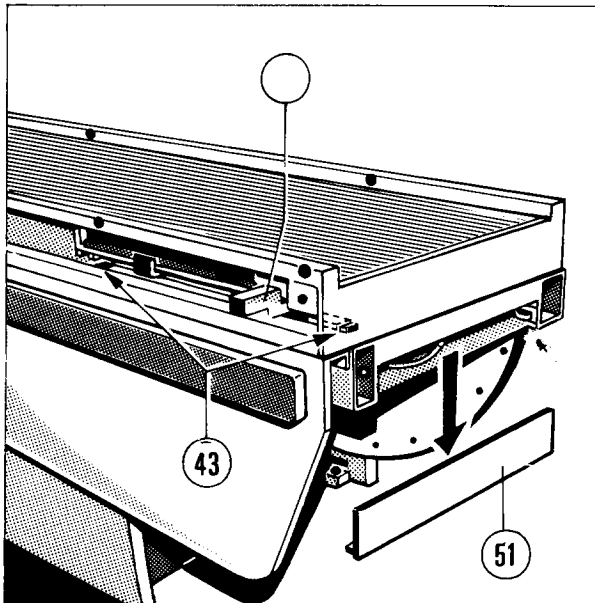
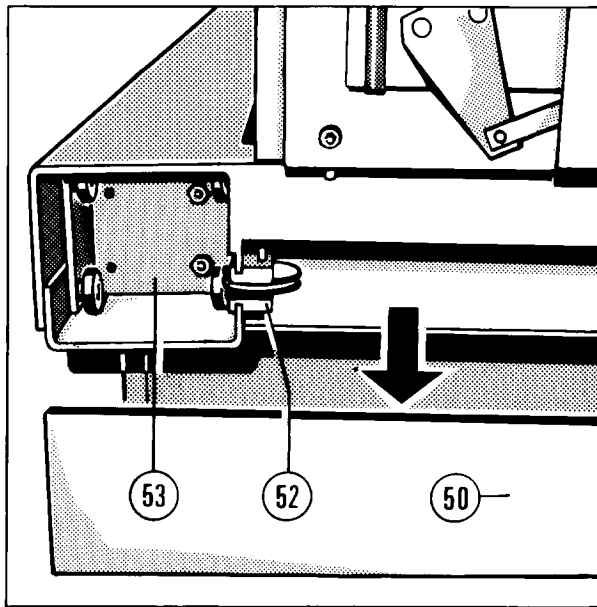

Fig. 20
Fig. 22
- Check bumpers (Fig. 20/item 43) on firmness and damage.
- Take off the covers at foot end side (Fig. 22/item 50) and head end side (Fig. 20/item 51).
- Remove the wire rope and take out the return pulley (Fig. 22/item 52) with pedestal.
- Remove the counterweight (Fig. 22/item 53).
- Put covers back on at head end (Fig. 20/item 51) and foot end side (Fig. 22/item 50).